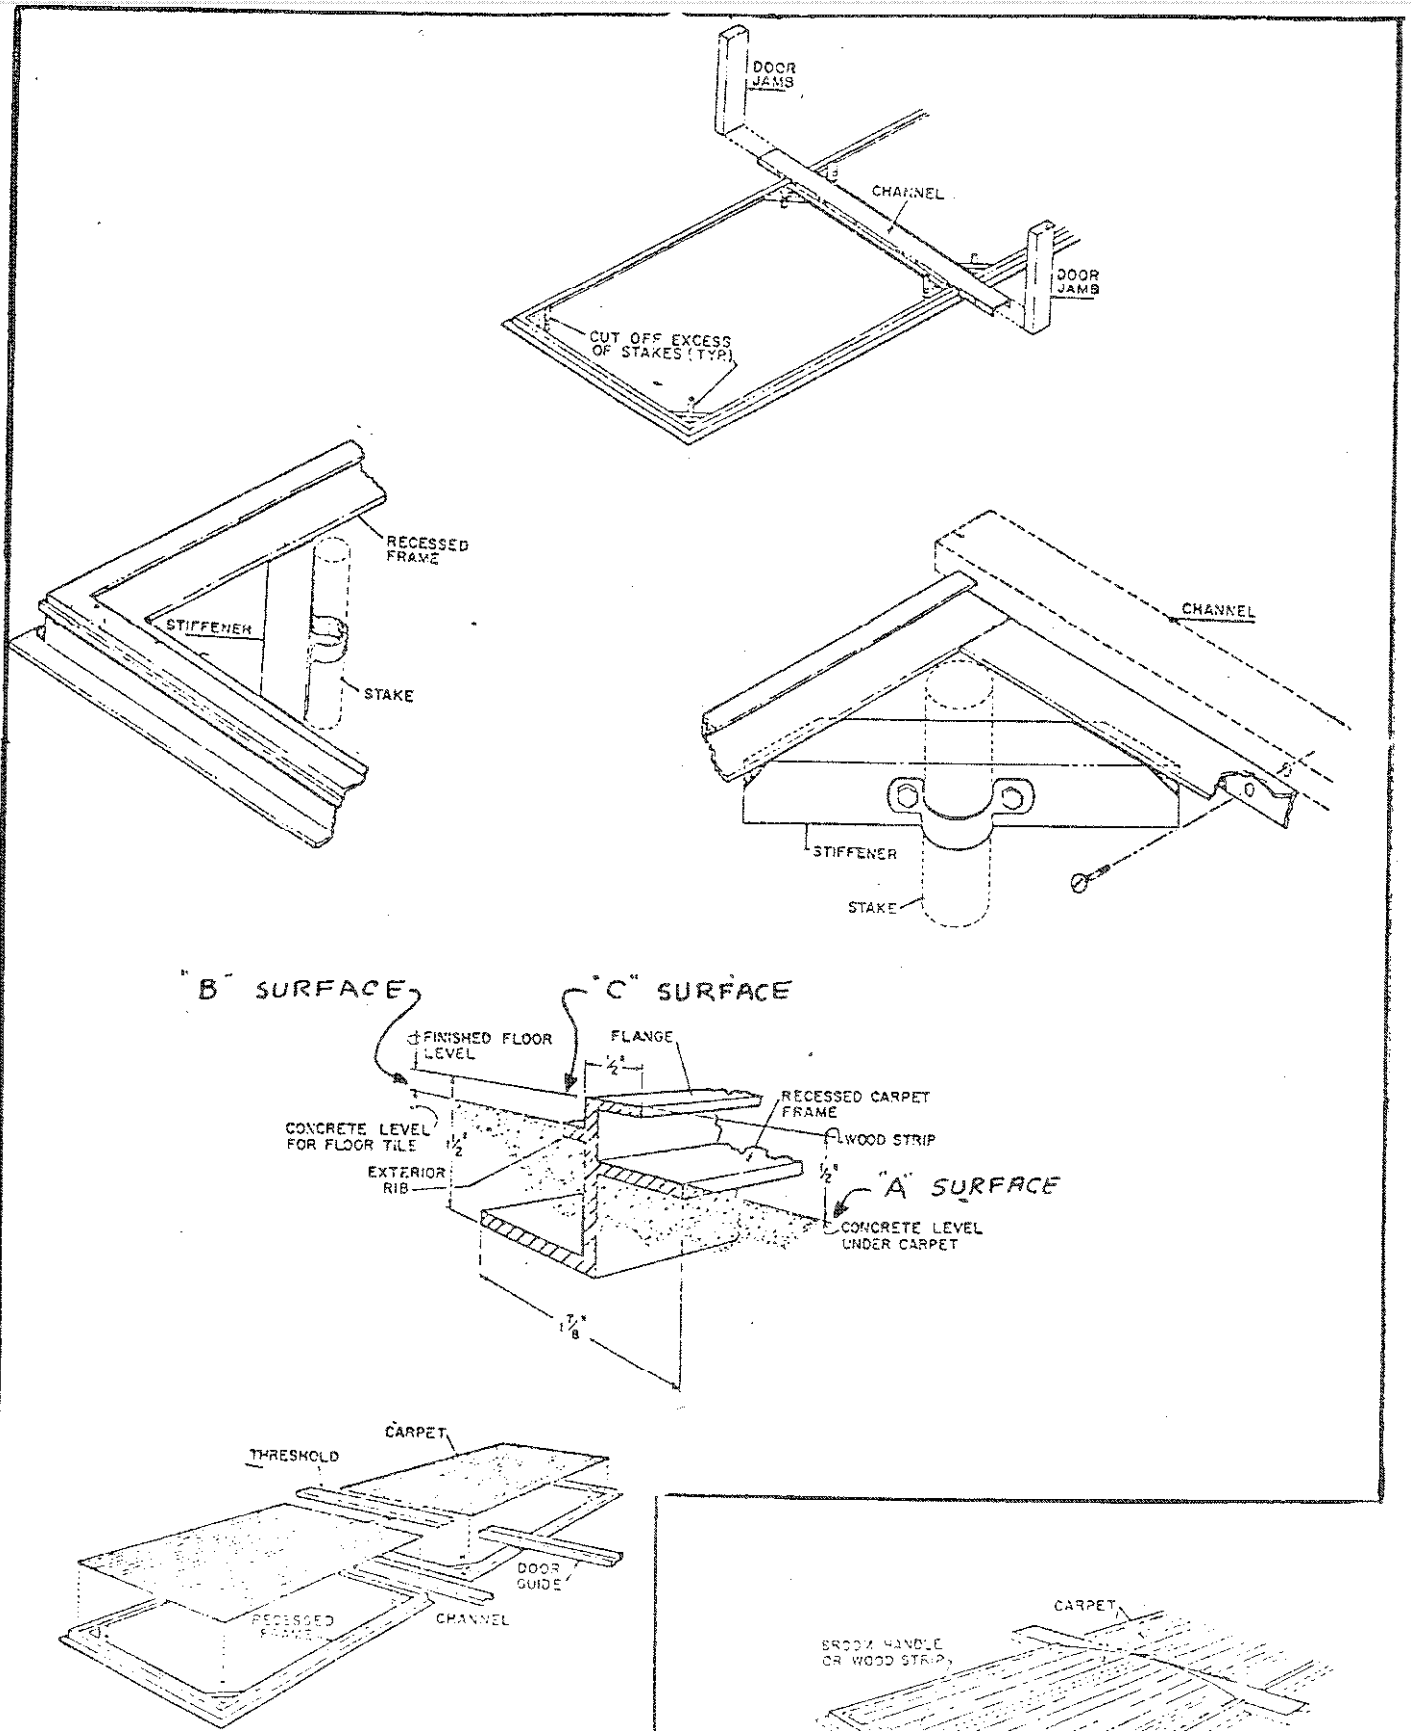

FIG. 14 Recessed carpet frame installation details.
5. Place the carpet frame into the recess provided. Level the frame, if necessary, with shims or stakes and clamps (not furnished). Cut the tops off the stakes (if used) about level with the stiffener on the carpet frame, (see FIG. 14). Secure the clamps to the angle bracket with \_\_\_\_\_ self threading screws.
7. Pour concrete into the groove on the inside of the frame up to the level of surface "A". (See FIG. 14). Pour concrete into the groove on the inside of the frame up to the level of surface "C" -- or surface "B" if the floor around the frame is to be tiled. All surfaces must be troweled smooth with no bumps or dips. After the concrete sets, remove the plastic insert from the frame.